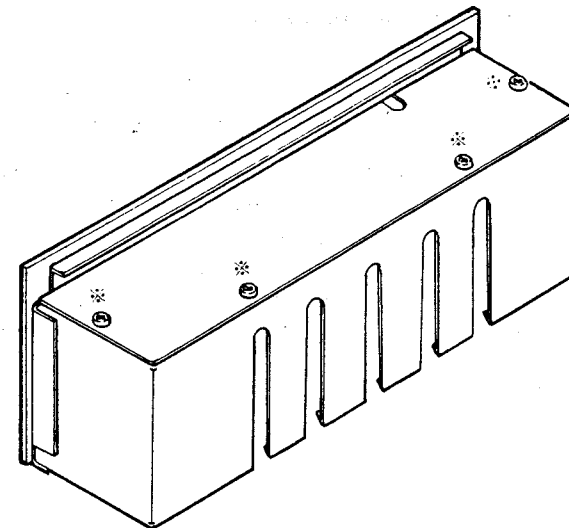

Fig. 2-1. Removal of Shield Plate
- Remove the four Phillips-Head screws (+RF3 $\phi$   $\times$  6) that secure the shield plate. See Fig. 2-1.